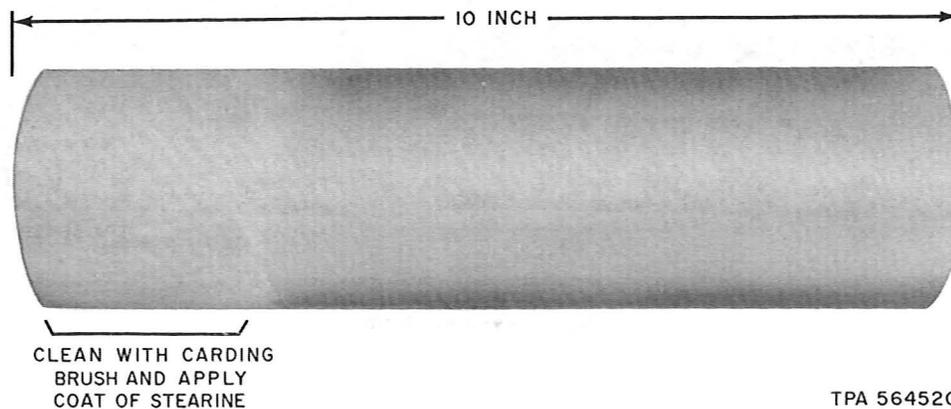

Fig. 1—Auxiliary Sleeve
2.03 Clean one end of the sleeve with a carding brush and apply a coat of stearine as outlined in Section 633-200-201 (Fig. 1).